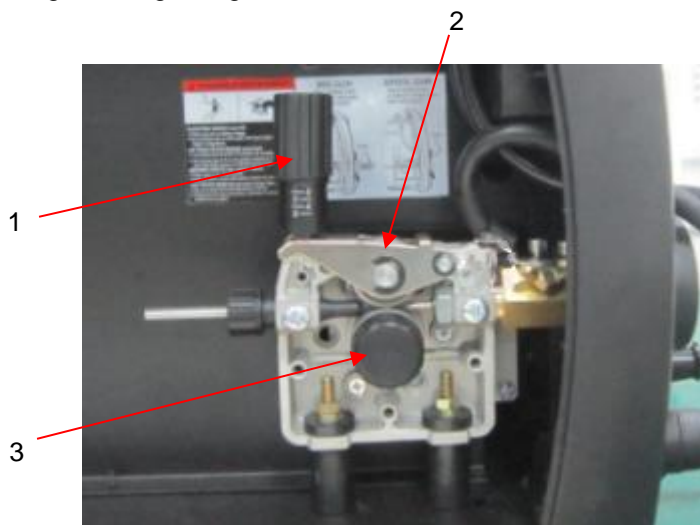

Figure 2
3. **INSTALL THE WIRE ROLLER** - The wire roller has been factory installed. However, check to make certain the correct wire groove is in place to accommodate the size of wire you are using. Open the wire feed compartment. Adjust the drive roller according to the following steps. See Figure 2 regarding the wire feeder structure: